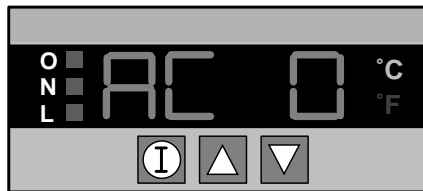

Figure 18: Ambient Temperature Compensation Display
2. Press the  button several times until the Ambient Compensation indicator displays (Figure 18). The display shows either a "0" or "1" (default="0" - Off).